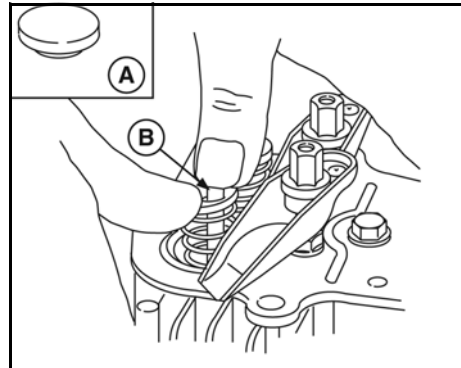

Figure 9
2. Remove valve stem caps (A, Figure 9) (if used), the rocker arm studs, and the push rod guide (models 97700, 99700).
3. Using thumbs, press down on each valve spring retainer and disengage retainer from valve stem (B). Remove retainers, springs, valves, and intake valve stem seal/washer, if equipped.